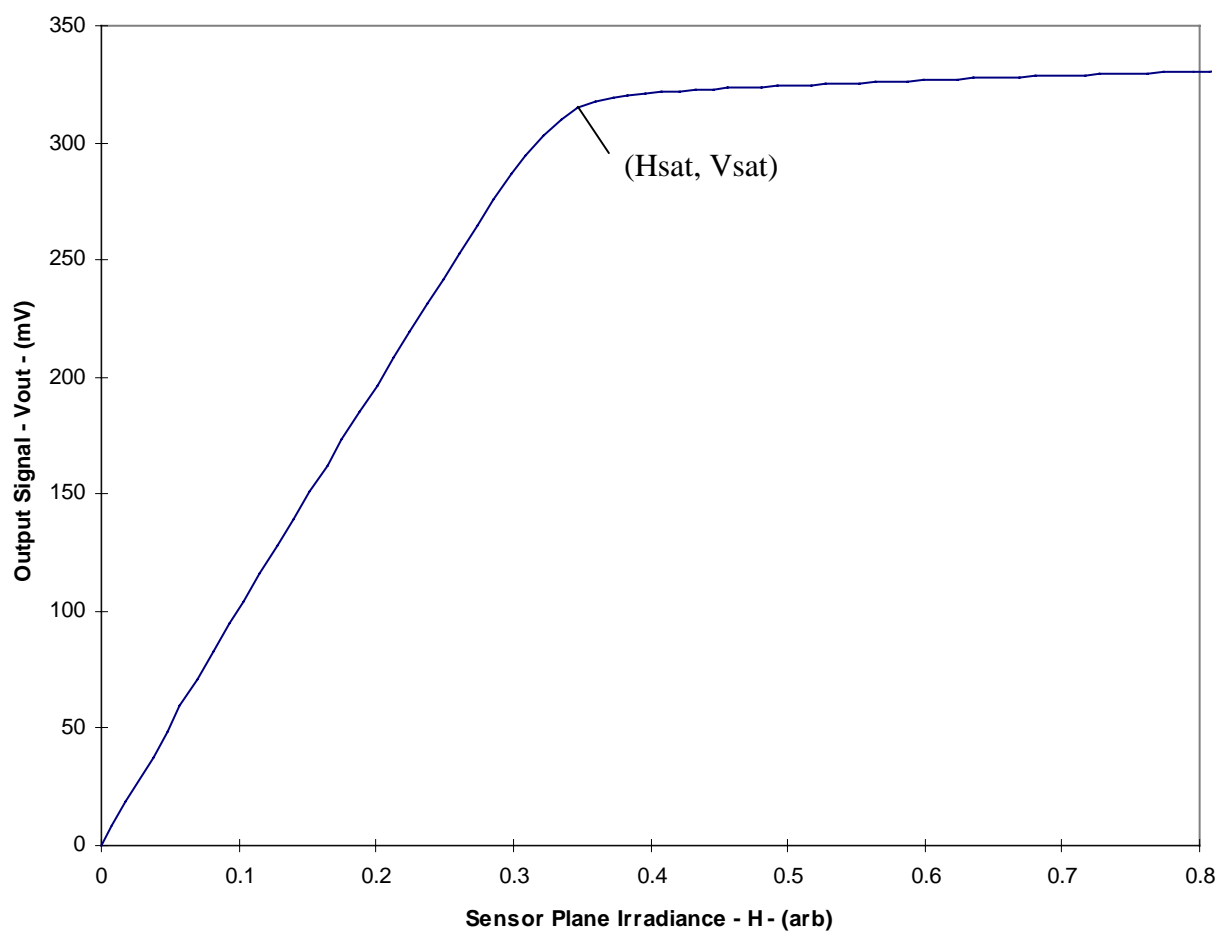

Figure 20 Typical KAI-1010Series Photoresponse
6. Xab represents the increase above the saturation-irradiance level (Hsat) that the device can be exposed to before blooming of the vertical shift register will occur. It should also be noted that Vout rises above Vsat for irradiance levels above Hsat, as shown in Figure 20.